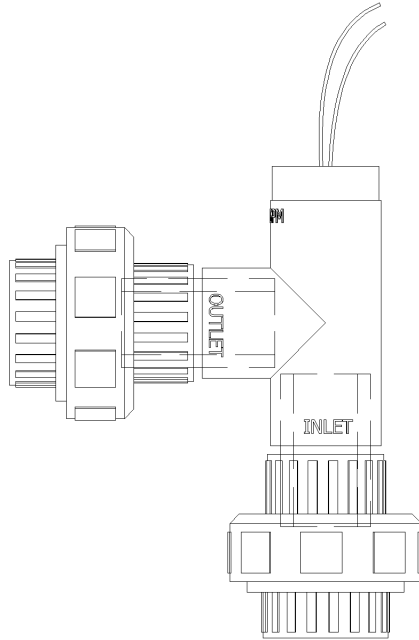

Figure 1
- Solvent weld the distribution loop piping into the correct inlet and outlet unions on the Flow switch. See Figure 1. The flow switch **MUST BE MOUNTED VERTICAL WITH THE WIRES POINTING UP. THE FLOW SET POINT MAY CHANGE OTHERWISE.**